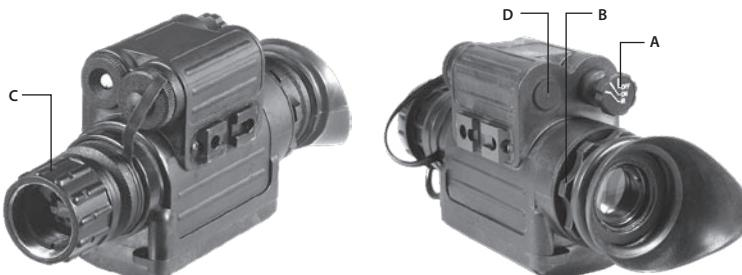

FIGURE 3-14. SPARK CONTROLS
The Spark controls are shown in Figure 3-14.
Function Switch (Figure 3-14, A)	OFF position — the unit is off. ON position — the unit is on (IT powered). Turn the unit on by turning the switch CCW from OFF to ON.
Eyepiece Ring (Figure 3-14, B)	Adjusts the unit diopter. The total dioptric range is covered in a 1/2 ring revolution.
Focusing Ring (Figure 3-14, C)	Focuses the lens. Adjusts for sharpest view of the scene. The total focus range is covered in a 1/3 ring revolution.
Bi-color LED Indicator (Figure 3-14, D)	A GREEN glow indicates that the unit is turned on and ready for operation. A RED glow indicates that the IR illuminator is operating.
4. Turn the function switch ON. The green indicator light (Fig. 3-14, D) indicates that the unit is ready for operation. After a slight delay, a green glow will appear in the eyepiece of the monocular.